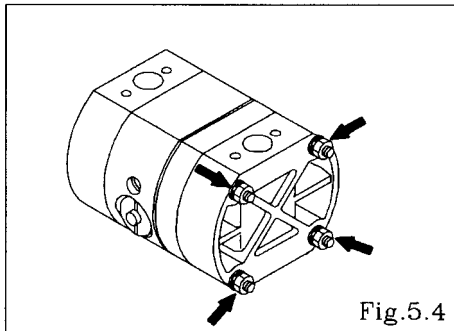

Fig.5.4
- Remove the 8 (12 on the PlusAir -15) retainer nuts from the out chamber, and remove the out chamber. [Fig.5.4]